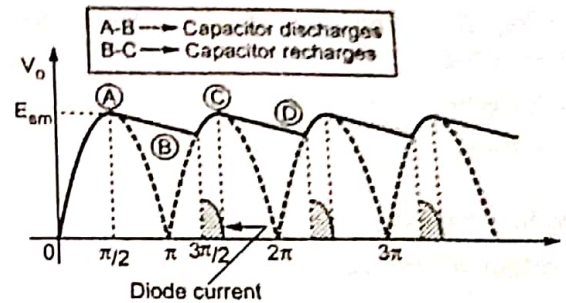

Fig. Q.26.2 FWR output with capacitor filter
- So during the period from $\frac{\pi}{2}$ to π the capacitor C supplies the load current. It discharges to point B shown in the Fig. Q.26.2.
- Again at point C, diode D_2 stops conducting and capacitor supplies load and starts discharging upto point D in the next quarter cycle of the rectified output voltage as shown in the Fig. Q.26.2. At this point, the diode D_1 conducts to charge capacitor back to E_{sm} . The diode currents are shown shaded in the Fig. Q.26.2.